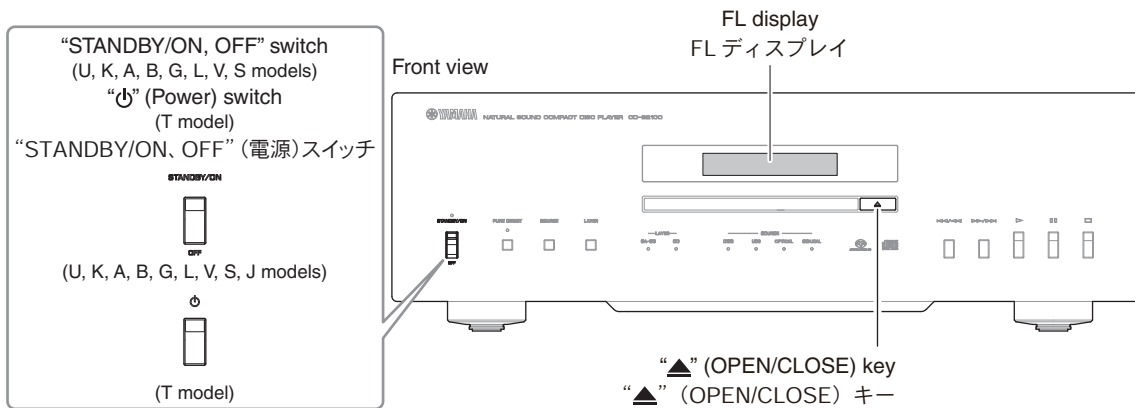

Fig. 1
2. Set the “STANDBY/ON, OFF” (U, K, A, B, G, L, V, S models) / “⏻” (Power) (T model) switch to the “ON” position. (Fig. 1)
3. Press the “▲” (OPEN/CLOSE) key to open the tray. (Fig. 1)
2. “STANDBY/ON、OFF” (電源) スイッチを “ON” にします。(Fig. 1)
3. “▲” (OPEN/CLOSE) キーを押し、トレイを開きます。(Fig. 1)